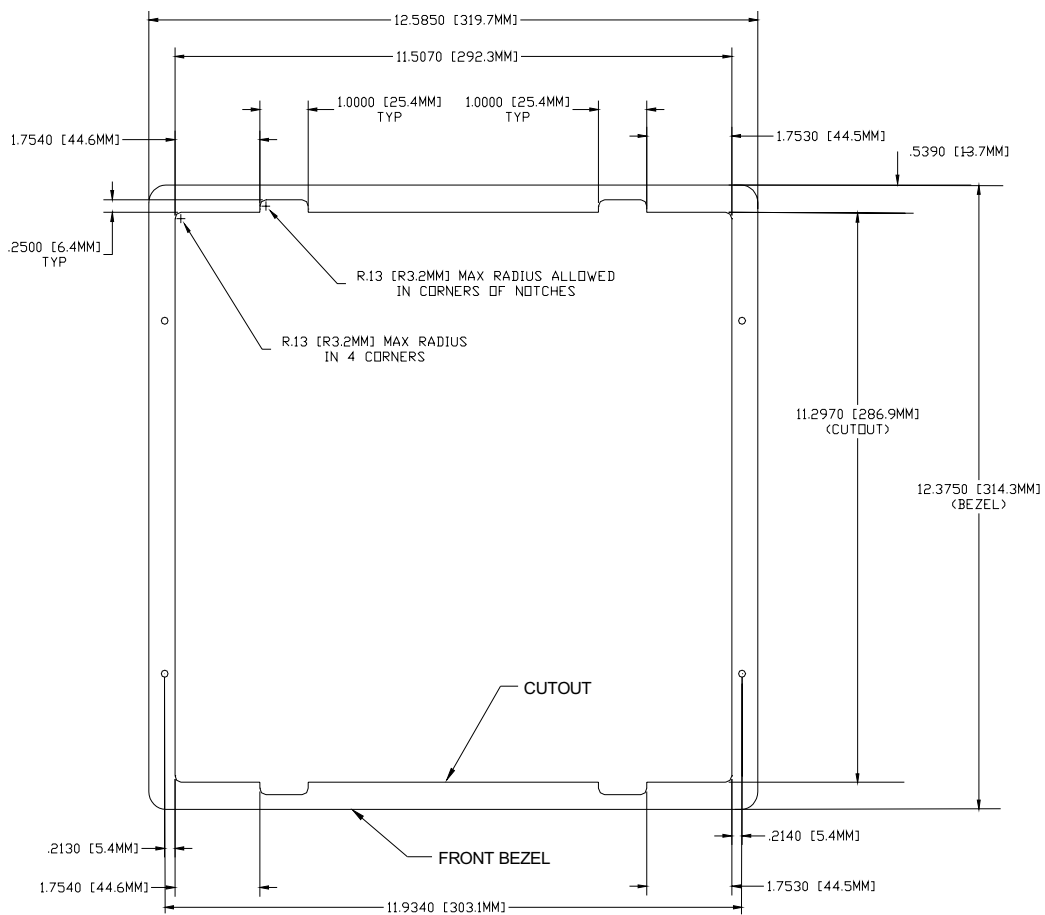

FIG. 38 NXD-1200V 12-inch Wall Mount panel dimensions using expansion clips
2. Cut out the surface for the **12-inch Wall Mount** using the dimensions shown in FIG. 38. Be sure to cut out the four notches along the top and bottom areas to accommodate the four drywall expansion clips (provided).